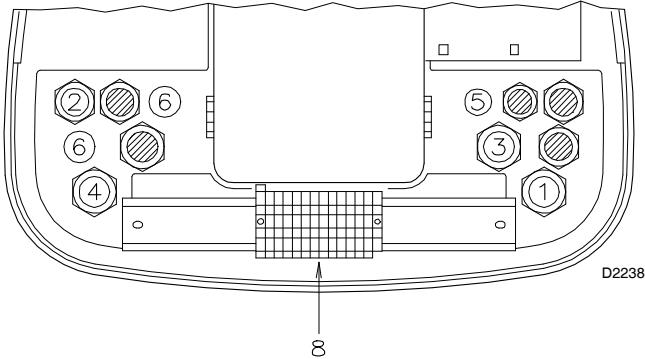

Fig. 15
6.1.1 Electrical connections (Fig. 15)
All the cables to be connected to the burner terminal strip 8) (Fig. 15) must be routed through the fairleads.